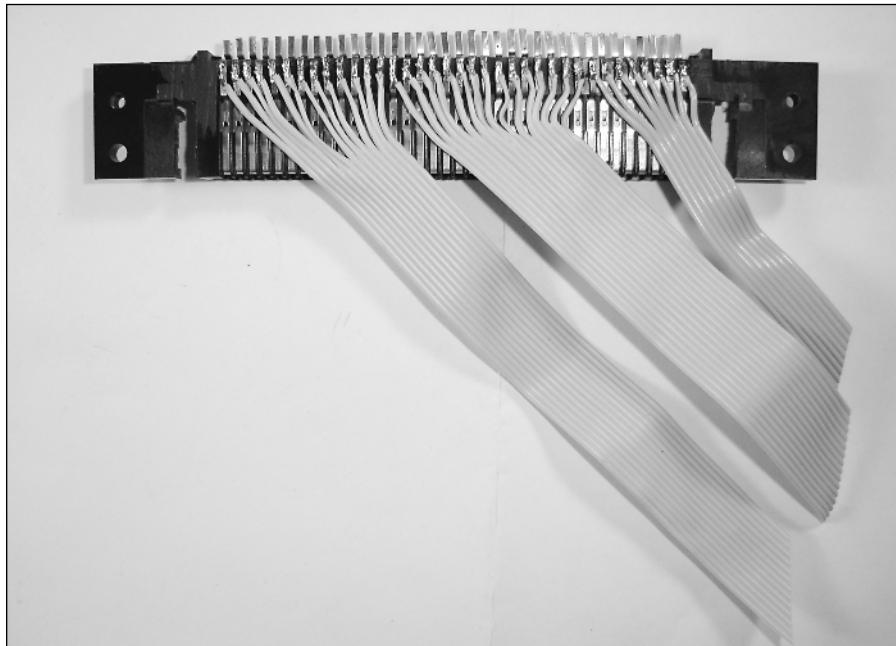

FIGURE 8-13: Attaching ribbon cable to the cartridge connector.
3. Start by attaching wire to the lower pins of the cartridge connectors — the ones that don't stick out the back. Strip only a little plastic off the wires in order to avoid unwanted connections. Attach the wires as shown in Figure 8-13.